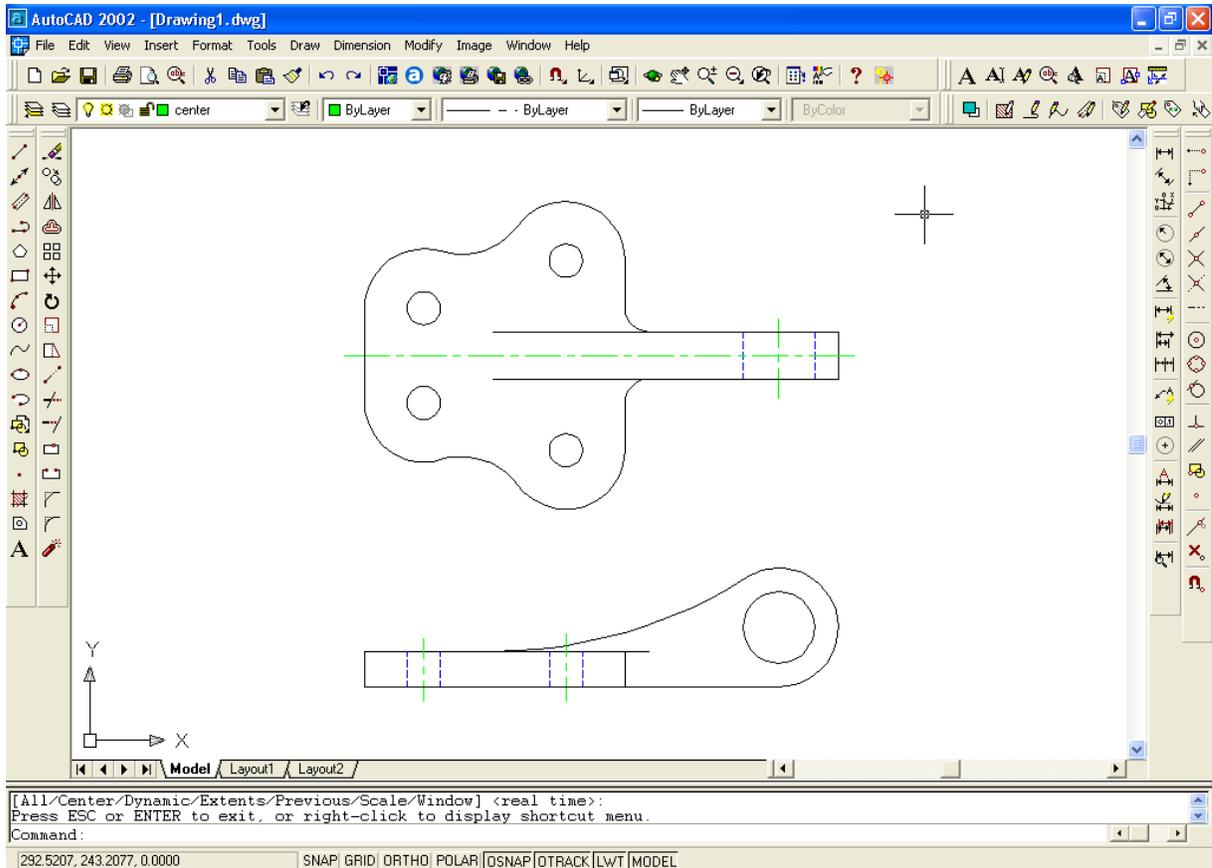

Figure 10.35 – The Bracket Problem
Figure 10.35 shows the complete display of a properly drawn Bracket problem for your preview.
*** World Class CAD Challenge * - Create a New file using the Metric template, and draw the 39 entities shown in Figure 10.35 in 3 minutes 15 seconds. Continue this drill four times, each time completing the drawing under 3 minutes 15 seconds to maintain your World Class ranking.**